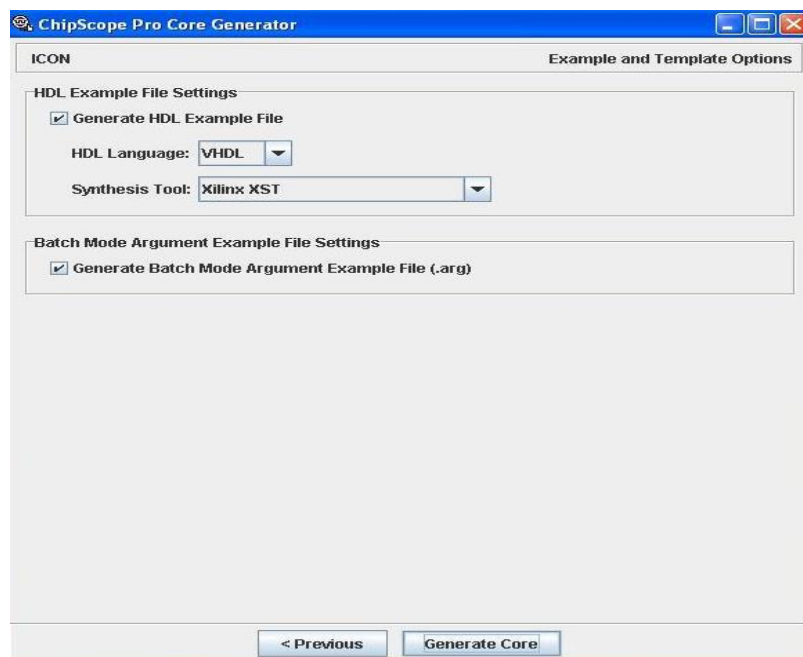

Fig 5.3: Selecting Example and Template Options
1. **HDL Example File Settings:** User can choose **Generate HDL Example File** which is used to instantiate into VHDL coding. The **Synthesis Tool** can be chosen as **Xilinx XST** as shown in Fig 5.3.